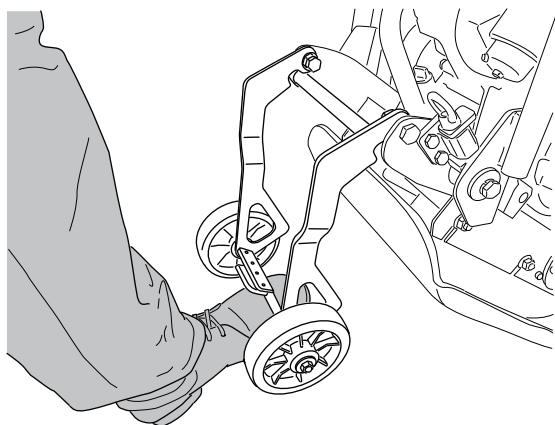

Fig.14
2. Revolve the cart to the rear, then put the plate compactor the ground (fig.14).